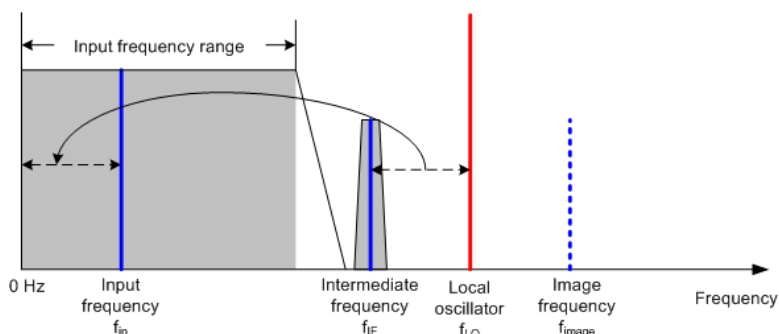

Figure 9-3: Mixing process
The mixer converts the RF signal to a fixed intermediate frequency (IF). This process usually involves several stages. It lasts until you get an IF for which good narrowband filters are available. The R&S FSH needs three mixing stages to get an IF that the filter can handle. Figure 9-3 graphically shows the mixing process.